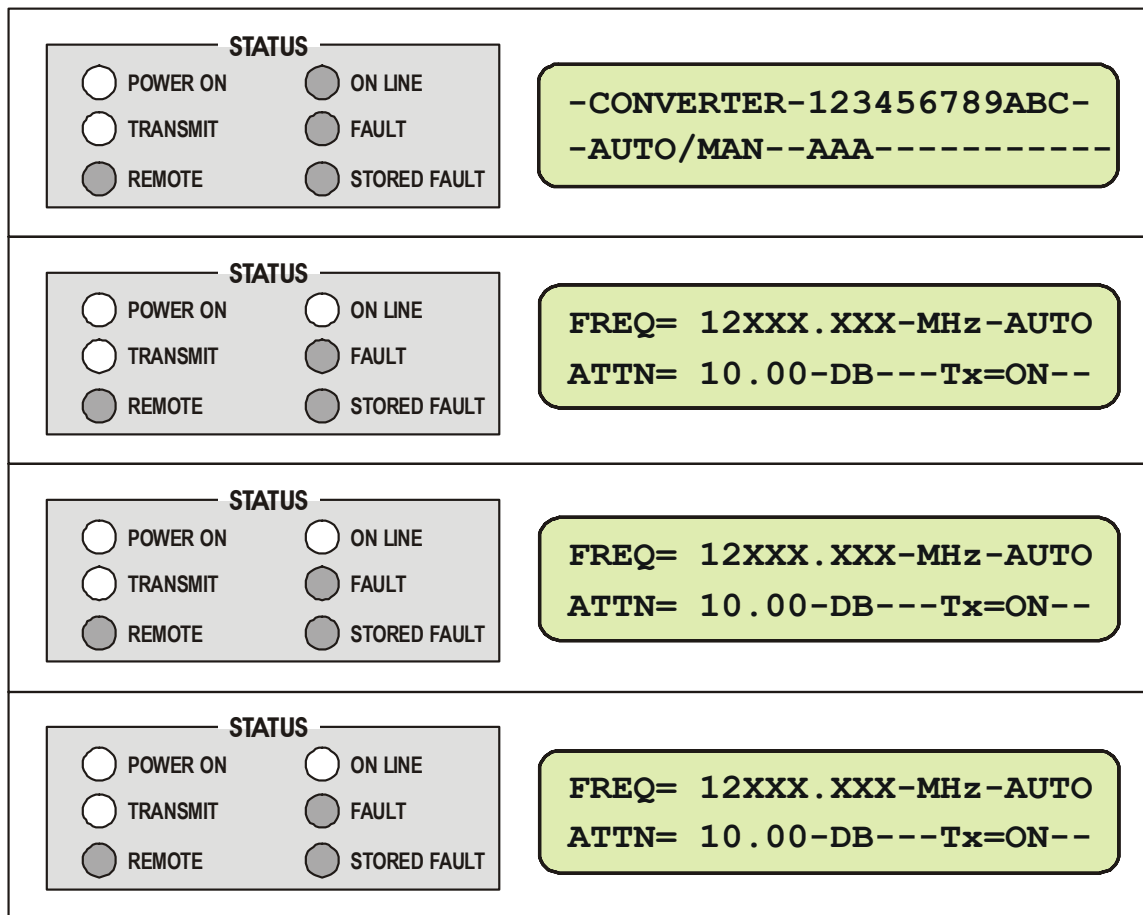

Figure 30. 1:3 System in AUTO Redundant Mode
Figure 30 shows the system configured for automatic (A) operation. In this mode, failure of an online converter will automatically cause a switchover to the redundant unit to occur. In the field, the simplest way to test this mode is to turn off an online unit. The AUTO/MANUAL selection is made in the converter. The online units will report their status as show in Figure 30.